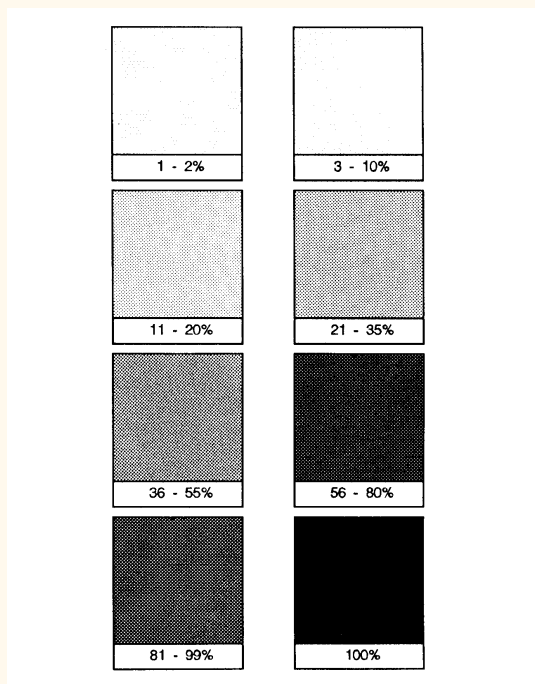

Figure 100. Shading Patterns
3. For *fill_type* 10, the *option1* value specifies the level of shading. The level is specified as a percentage. The device uses at least nine predefined levels of shading equally divided between 0 and 100%. The default is 50%. Each shading level is the percentage of ink used of the current pen color, to be used as texture. If transparency is ON, the destination ink color is also preserved in the (100-option1) part (see the instruction TR, Transparency Mode). If a “curtain” effect is perceived in the fill area, use the PP, Pixel Placement instruction with a parameter of 1. Figure 100 shows various levels of shading and the specified percentage.